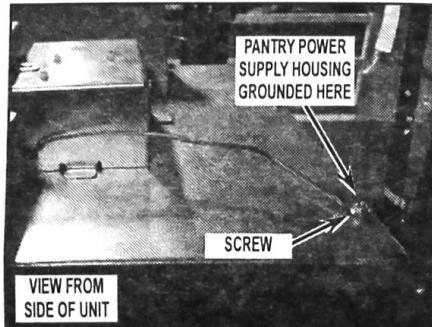

FIGURE 9
11. Remove screw from the top of condenser cover and use to attach ground wire from the pantry power supply housing as shown in Figure 9.